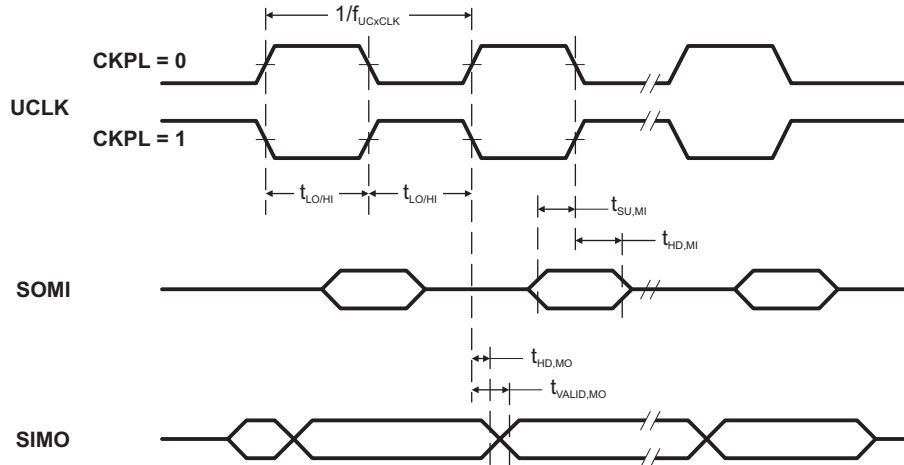
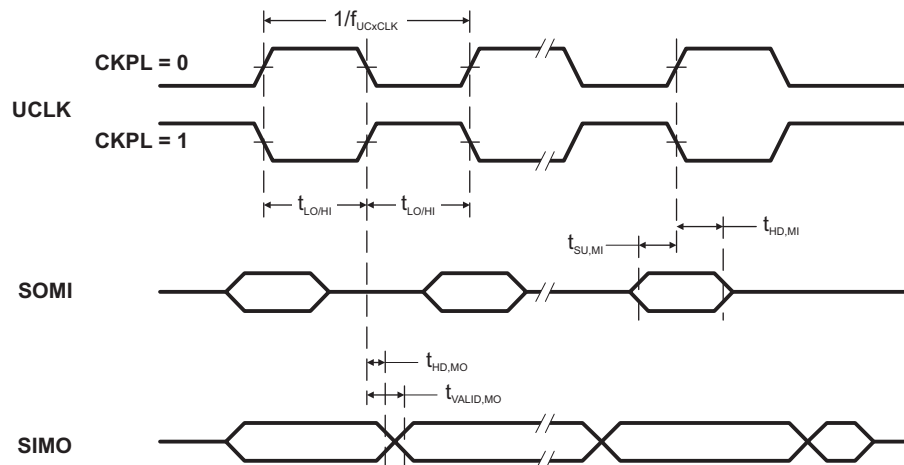

Figure 5-11. SPI Master Mode, CKPH = 0
Figure 5-12. SPI Master Mode, CKPH = 1
(see Note (1), Figure 5-11 and Figure 5-12)
- (1) fUCxCLK = 1/2tLO/Hi with tLO/Hi ≥ max(tVALID,MO(USCI) + tSU,SI(Slave), tSU,MI(USCI) + tVALID,SO(Slave)).
- (2) Specifies the time to drive the next valid data to the SIMO output after the output changing UCLK clock edge. See the timing diagrams in Figure 5-11 and Figure 5-12.
- (3) Specifies how long data on the SIMO output is valid after the output changing UCLK clock edge. Negative values indicate that the data on the SIMO output can become invalid before the output changing clock edge observed on UCLK. See the timing diagrams in Figure 5-11 and Figure 5-12.
- (2) Specifies the time to drive the next valid data to the SOMI output after the output changing UCLK clock edge. See the timing diagrams in Figure 5-11 and Figure 5-12.
- (3) Specifies how long data on the SOMI output is valid after the output changing UCLK clock edge. See the timing diagrams in Figure 5-11 and Figure 5-12.